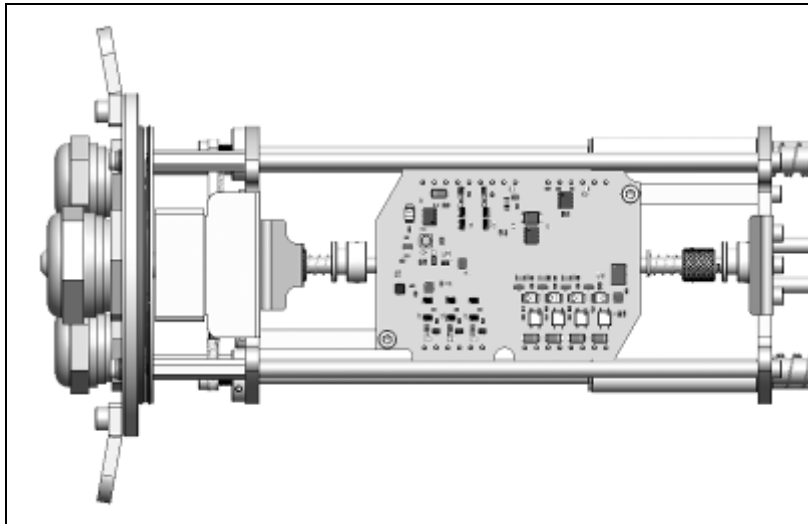

Figure 42: Mounting of the industrial PIF (top view)
5. Fix the industrial PIF with the screws (M3x5) as shown in **Figure 42**.